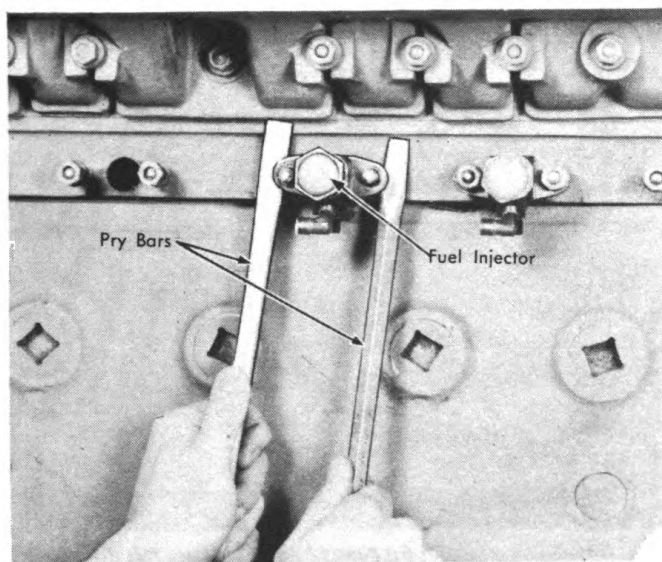

Figure 112. Removing Injectors.
8. Remove the injectors. If they are carbonized and will not come out easily, they can be pried out as shown in Figure 112.